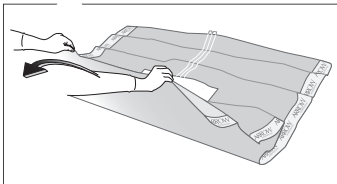

Figure 11
- Unfold towards hand (refer to Figure 11).